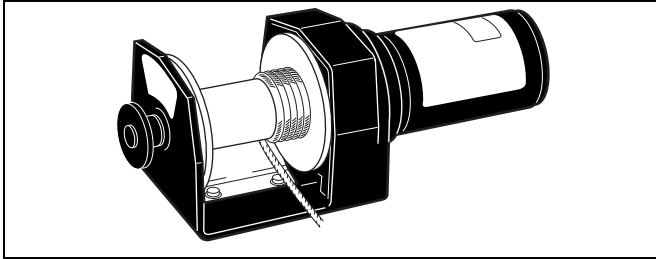

Fig. 5 Never Operate Winch with Less Than Five Turns Around Drum
Never operate the winch with less than five (5) full turns of cable around the drum (Ref Fig. 5 on page 3-7).